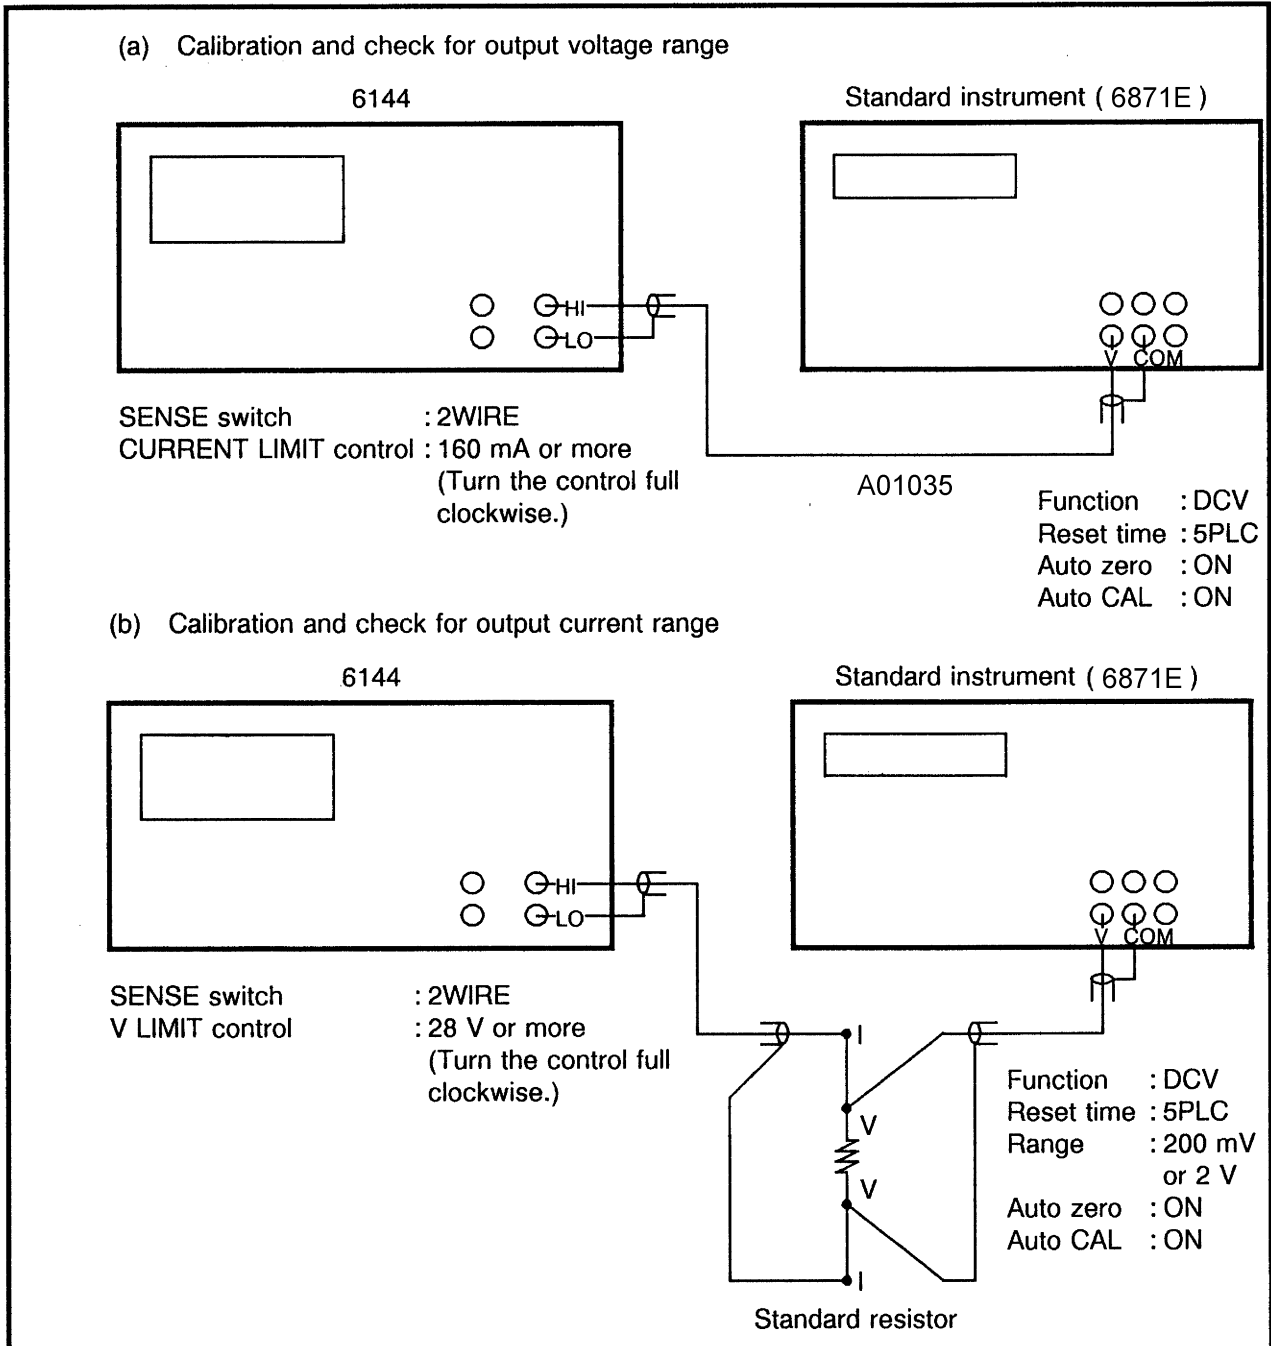

Figure 7-2 Connection with Calibration Instruments and Basic Conditions of Setting
(1) Connection and operation check
- ① Connect the 6144 and a standard instrument. Figure 7-2 shows the connection and basic conditions of setting.
(See Figure 7-2 "Connection with Calibration Instruments and Basic Conditions of Setting.")